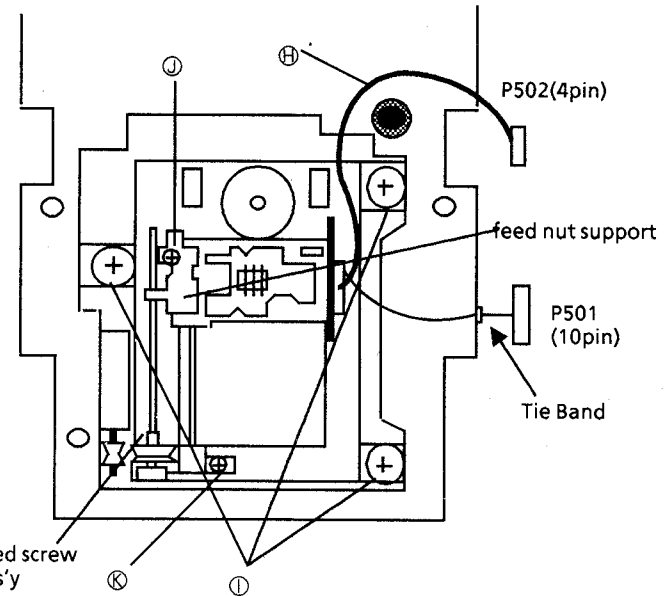

Fig.2
- 3) Remove the 2 screws (B) fastening the changer assembly.
- 4) Disconnect the connectors. (C)(D)(E)(F)(G)
- 5) Slide the changer assembly to arrow direction (I).
Wire (H) should be set as Fig.2.
## 4. Removing the turntable base (Fig.2)
## 5. Exchanging the pickup (Fig.2)